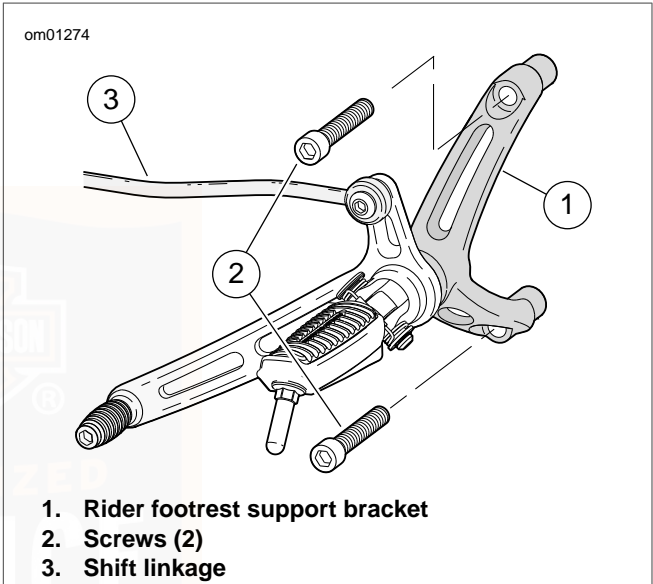

Figure 39. Rider Footrest Assembly (Left Side): XR 1200 Model
5. See Figure 39. For XR 1200 model, remove screws and detach the rider footrest support bracket from the left side of the vehicle. With the shift linkage still attached, lower the footrest assembly to access the clutch inspection cover screws.
9. See Figure 39. For XR 1200 model, remove screws and detach the rider footrest support bracket from the left side of the vehicle. With the shift linkage still attached, lower the footrest assembly to access the clutch inspection cover screws.